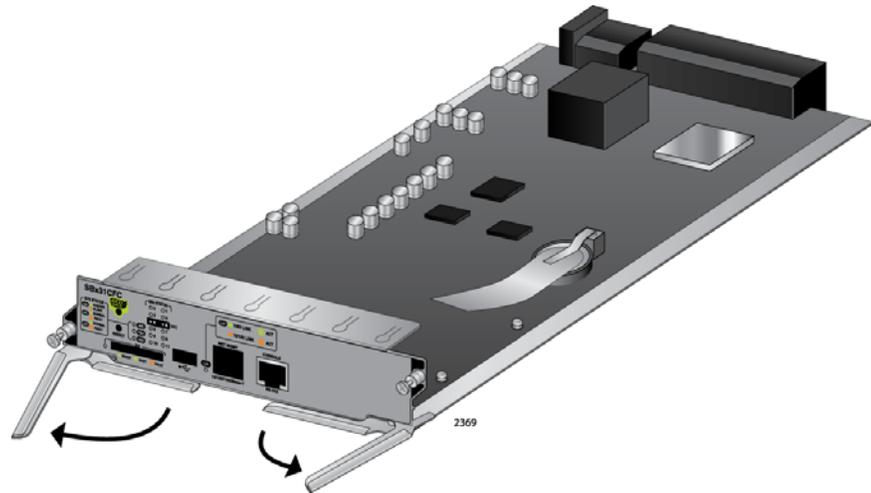

Figure 68. Opening the Locking Handles on the AT-SBx31CFC Controller Fabric Card
4. Move the locking handles on the front panel to the open position, as shown in Figure 68.